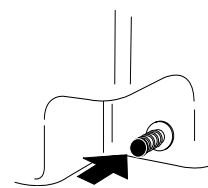

Fig. 4
N.B. If you want to go back collecting the condensation in the tank, remove the hose and insert the rubber cap into the pipe (Fig. 4).